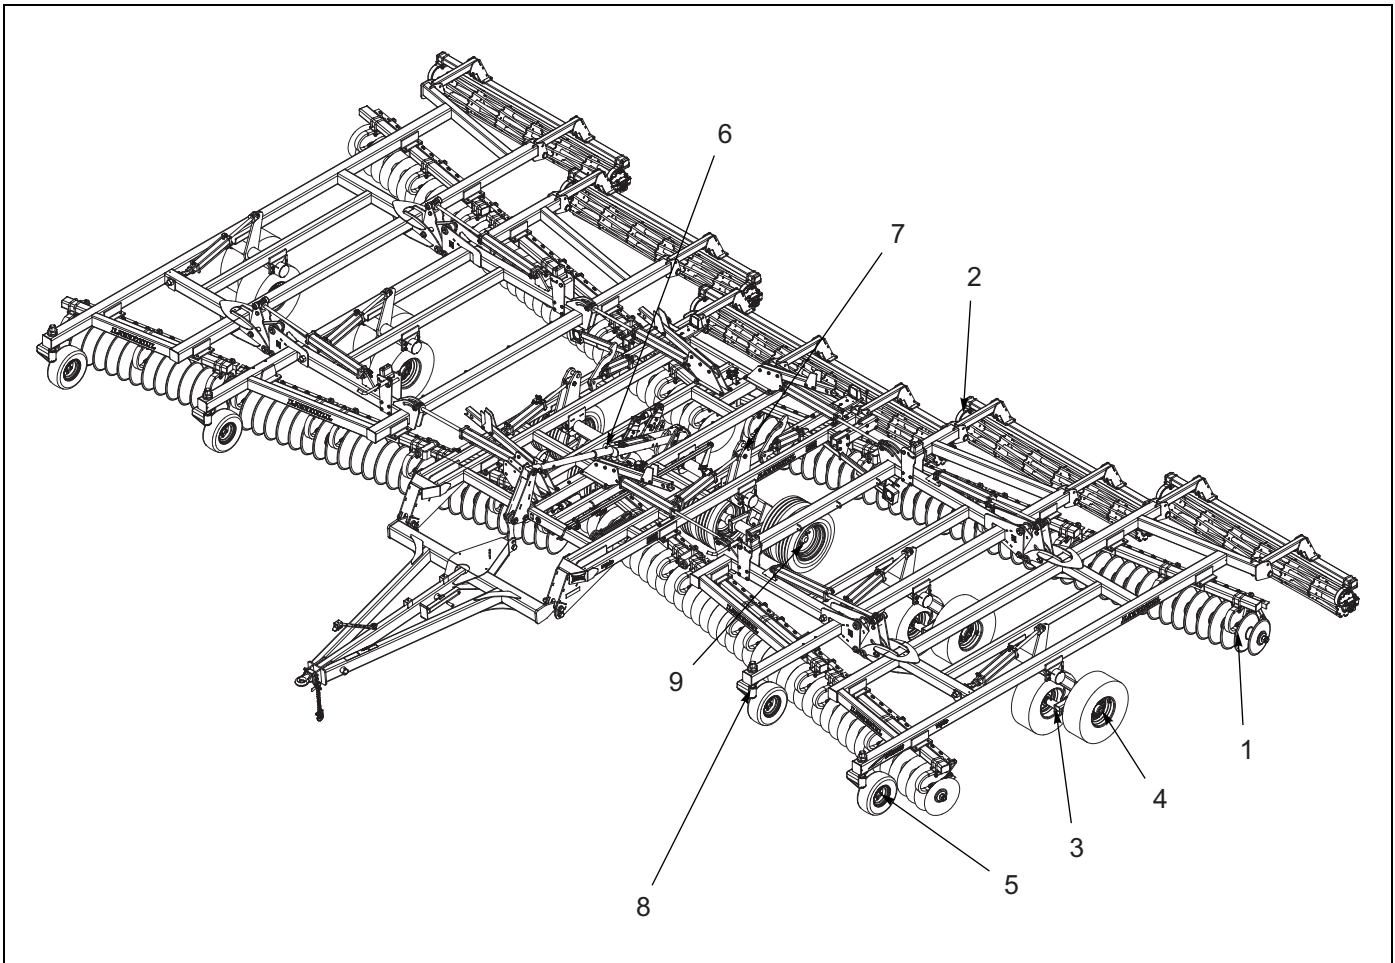

Figure 4-23: Lubrication Schedule
1. **Table 4-1** specifies the number and the period of lubrication points on the 7450 VT Plus. Proper maintenance of your machine will, under normal operating conditions, help to keep it operating at or near its peak performance for an extended period of time. Proper maintenance is also a condition of keeping your warranty in good status (**See Figure 4-23.**)